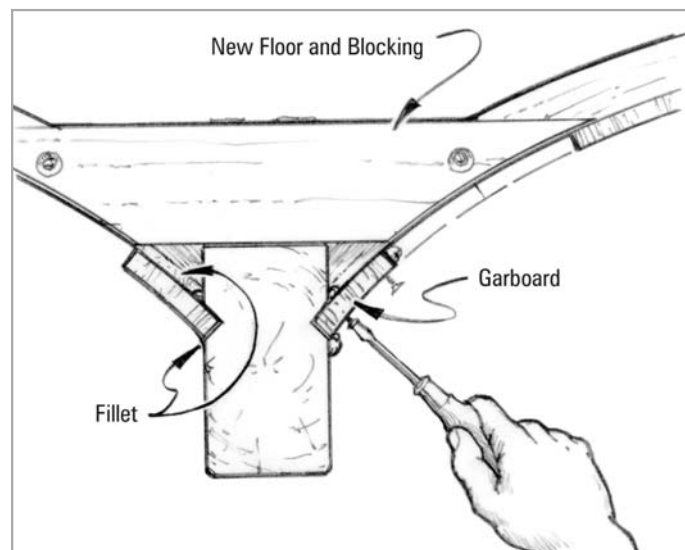

Figure 4-12 Bond the garboard back into position next to the keel. Toughened G/flex 655 Epoxy Adhesive is well suited for this type of joint.
5. Install the garboard with the original screws (*Figure 4-12*). Start at the middle and work toward both ends.